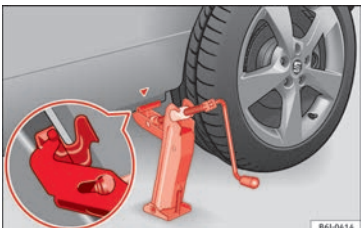

Fig. 60 Fitting the jack.
- Align the jack so that the arm of the jack fits around the rib under the door sill and the movable base plate of the jack is flat on the ground » Fig. 60.